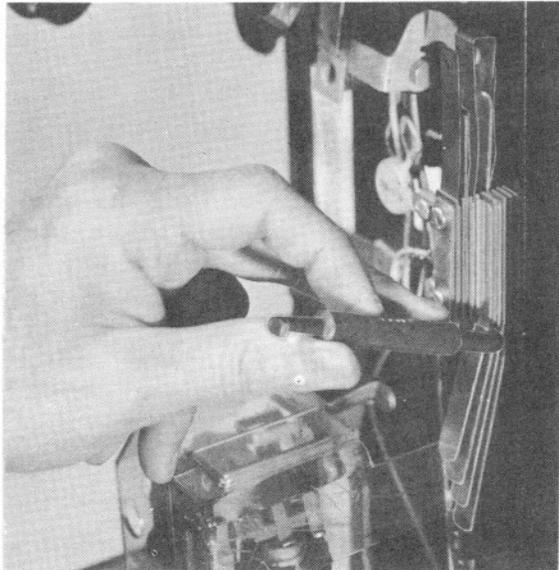

FIG. 6—ADJUSTMENT OF HOUSING CONTACT SPRINGS
- Clean and adjust housing contact springs and equalizing spring to have approximately 1/4-inch follow so that housing comes into contact with housing contact springs and equalizing spring at about same time. A 466A tool is used for adjusting springs, as shown in Fig. 6.